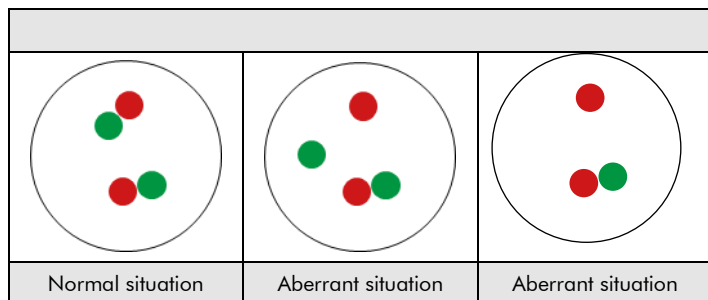

Fig. 2: Expected results in normal and aberrant nuclei
**Normal situation:** In interphases of normal cells or cells without a translocation involving the NTRK1 gene region, two red/green fusion signals appear (see Fig. 2).
**Aberrant situation:** One NTRK1 gene region affected by a translocation is indicated by one separate distinct dot-shaped green signal and one separate distinct dot-shaped red signal. Isolated red signals are the result of deletions proximal to the NTRK1 breakpoint region or are due to unbalanced translocations affecting this chromosomal region (see Fig. 2).